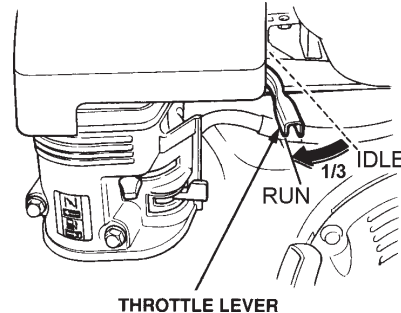

Figure 2. Throttle Lever (1/3 Start Position)
2. Move the **throttle lever** (Figure 2) away from the slow position, about 1/3 of the way toward the fast position.